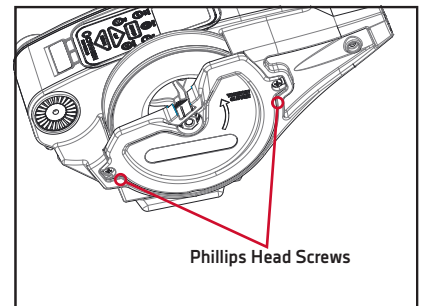

Figure 20
2. Loosen the two 1/4-20 Phillips head screws on opposite sides on the cover. (Figure 20)